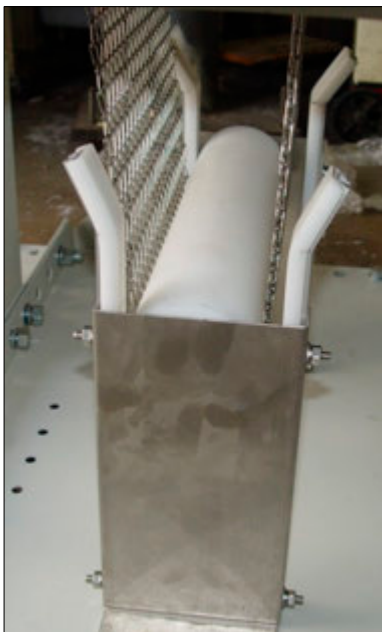

Figure 7-22 Belt Weight in Place
4. Reinsert belt weight as shown in Figure 7-22. If necessary, pull belt to the left or right to align Belt so that Belt Weight is allowed to move freely as shown in Figure 7-22.
Reinsert belt weight as shown in Figure 7-22. If necessary, pull belt to the left or right to align Belt so that Belt Weight is allowed to move freely as shown in Figure 7-22.